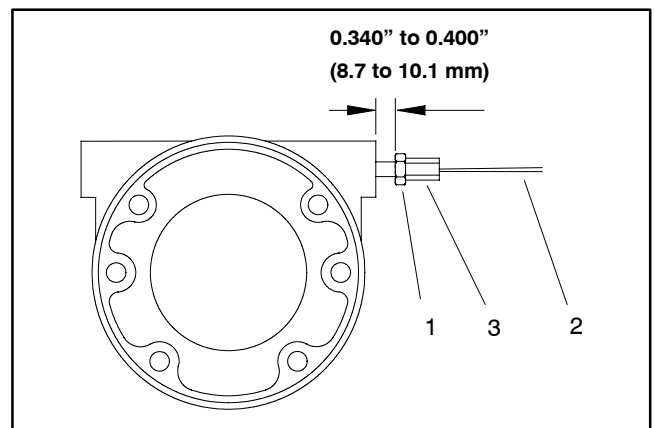

Figure 4
11. Check and adjust brake cables for proper brake operation. If necessary, adjust hex on end of brake cable so that pull rod jam nut is positioned from **0.340" to 0.400" (8.7 to 10.1 mm)** from brake casting surface when brakes are disengaged (Fig. 4). Brakes should be adjusted so that both brake pedals have approximately 1" (25mm) of freeplay and have equal brake tension.